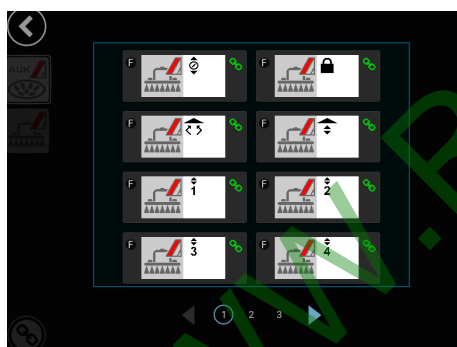

Fig. 88
- Press **CONTINUE**: the monitor shows the functions that can be assigned (example Fig. 88)). Select the desired one. The auxiliary input is now associated with the function.